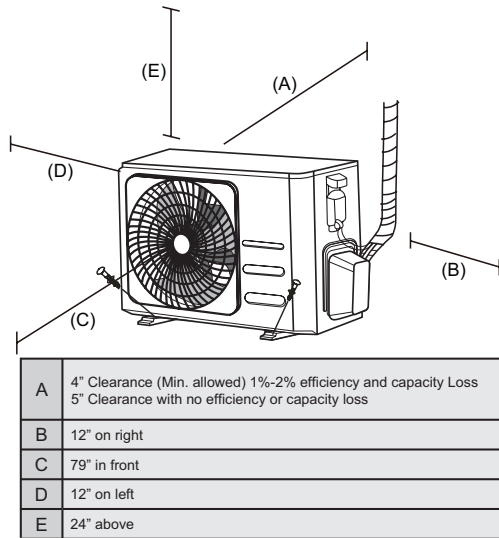

Fig. 6.10
**NOTE:** The minimum distance between the outdoor unit and walls described in the installation guide does not apply to airtight rooms. Be sure to keep the unit unobstructed in at least two of the three directions (B, C, D) (See Fig. 6.10)